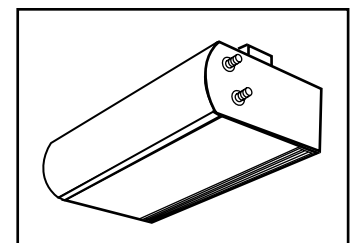

Figure 8
1. Connect the supply & return to the 1" MPT nipples on the heating coil. **See Figure 8.**